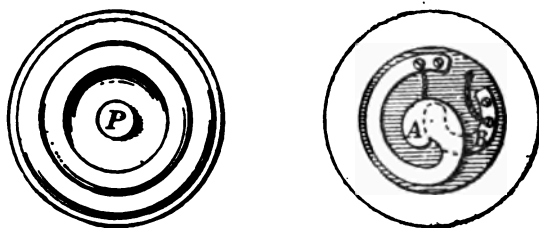

FIG. 84.
*B* is a small battery, say two or three "dry" or Leclanché cells, joined by insulated wire to *P*, a press-button or contact key, and *G* an electro-magnetic gong or bell. On pressing the button *P*, a spring contact is made, and the current flowing through the circuit strikes the bell. The action of the contact key will be understood from figure 84, where *P* is the press-button removed to show the underlying mechanism, which is merely a metal spring *A* over a metal